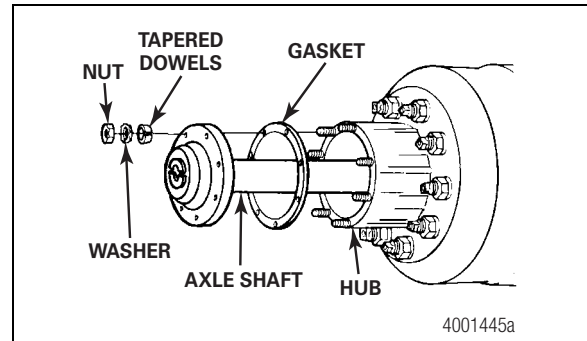

Figure 3.1
6. Remove the stud nuts and washers from the flanges of both axle shafts. Figure 3.1.